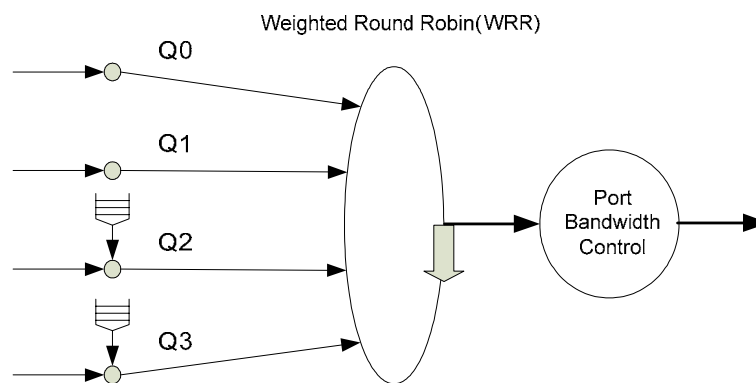

Figure 15. Packet-Scheduling Diagram
- Type I leaky bucket, which specifies the average rate of one queue (see Figure 15; only Q2 and Q3 have leaky bucket, Q0 and Q1 do not). The queue rate can be configured from 0kbps to the line rate in steps of 64kbps
In addition, the RTL8304MBI can select one of the two sets of packet-scheduling configurations according to the packet-scheduling mode. Figure 15 shows the RTL8304MBI packet-scheduling diagram.